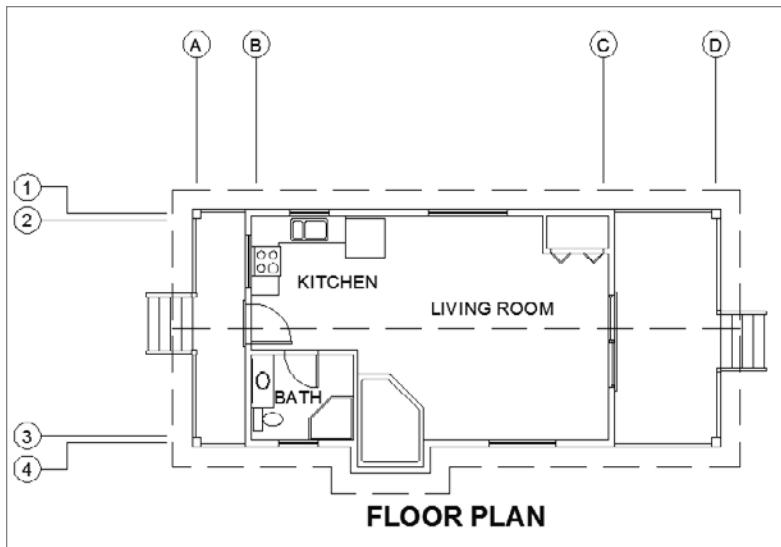

FIGURE 8.37 The completed grid
12. Repeat this process for the remaining five grid circle letters, changing them to *D, I, 2, 3, and 4*. Press J to end the EDIT TEXT command. The letters and numbers are all in place, and the grid is complete (see Figure 8.37).